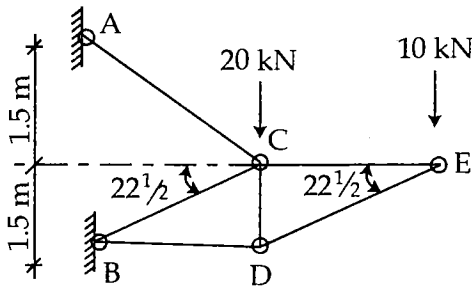

Fig. 6
- (b) Find the nature and magnitude of forces in members of a truss shown in fig.6.